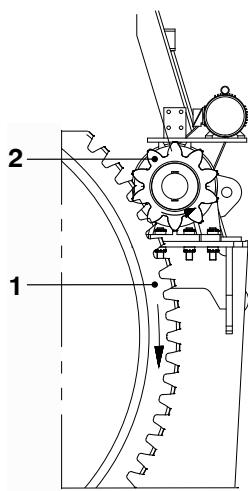

Fig. 1
Note: Make sure that you turn the flywheel (1, Fig. 1) and pinion (2) in the correct direction (The arrows show the correct direction.)